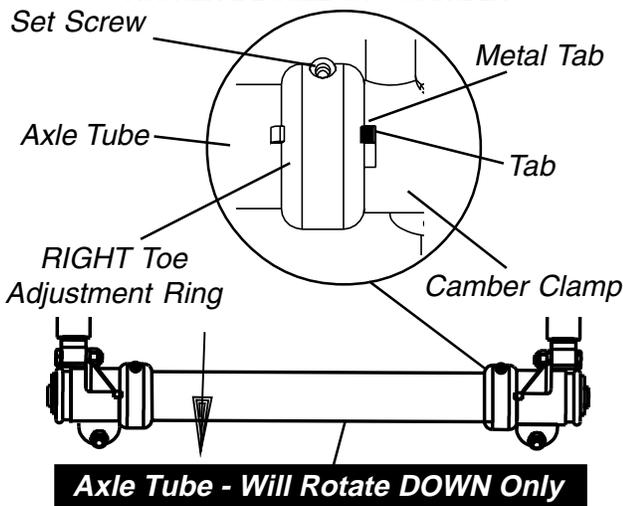

FIGURE 9 - ADJUSTING THE AXLE TUBE
**ADJUSTING THE AXLE TUBE (FIGURE 9)**
2. Loosen the set screw that secures each toe adjustment ring to the axle tube (FIGURE 9).
3. Using an "L" square, rotate the axle tube until the flat edge of the camber insert is at a 90° angle with the ground/floor as shown in FIGURE 9.
8. Perform one (1) of the following: